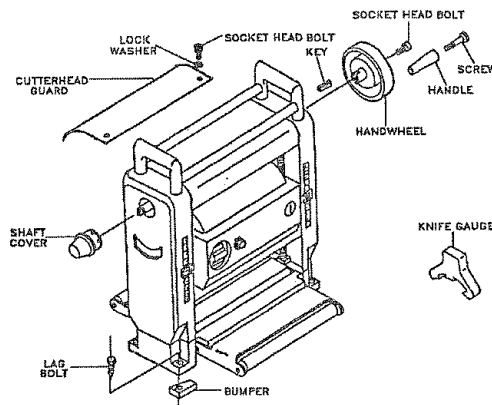

Figure 2
1. Additional parts which need to be fastened to the unit should be located and accounted for (See Figure 2).